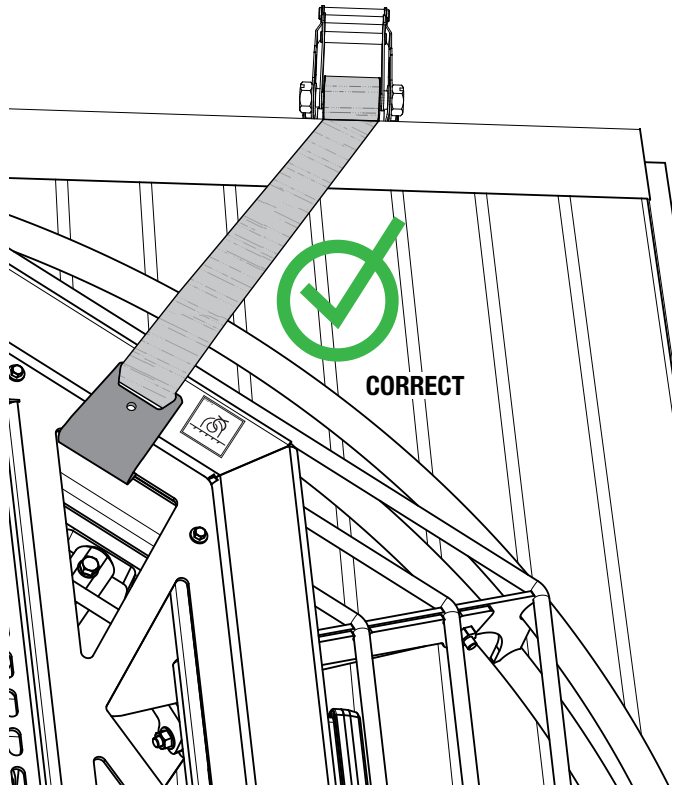
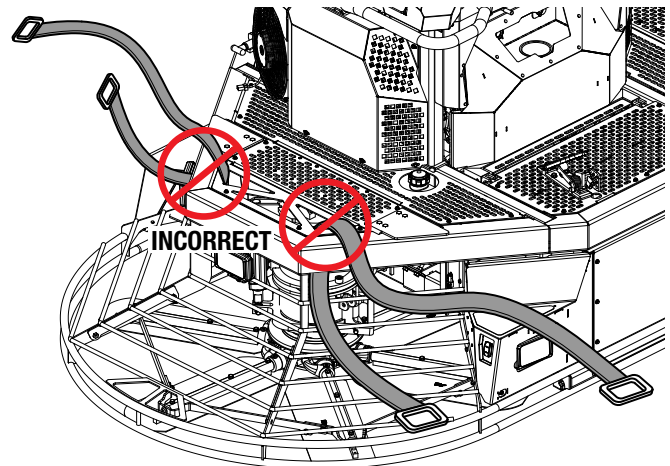

Figure 8. Tie-Down Method (Correct)
Figure 9. Tie-Down Method (Incorrect)
2. Attach suitable tie-down straps to the locations marked by the tie-down symbols. Be sure to connect the tie-down strap hooks directly to the trowel as shown in Figure 8. **DO NOT** wrap the tie-downs around the frame as shown in Figure 9.